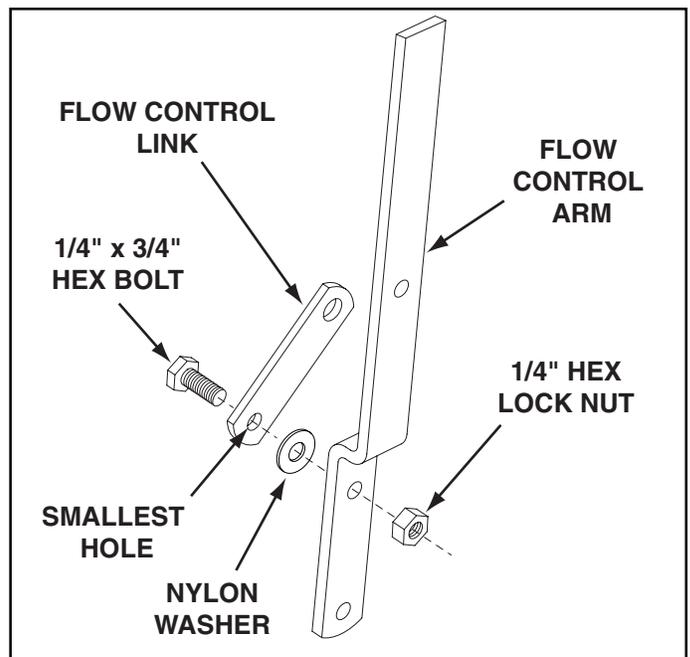

FIGURE 7
15. Assemble the flow control link (end with small hole) to the flow control arm using a 1/4" x 3/4" hex bolt, a nylon washer and a 1/4" hex lock nut as shown in figure 7. **Tighten carefully.** The flow control link should not be loose but should pivot with no more than slight resistance.